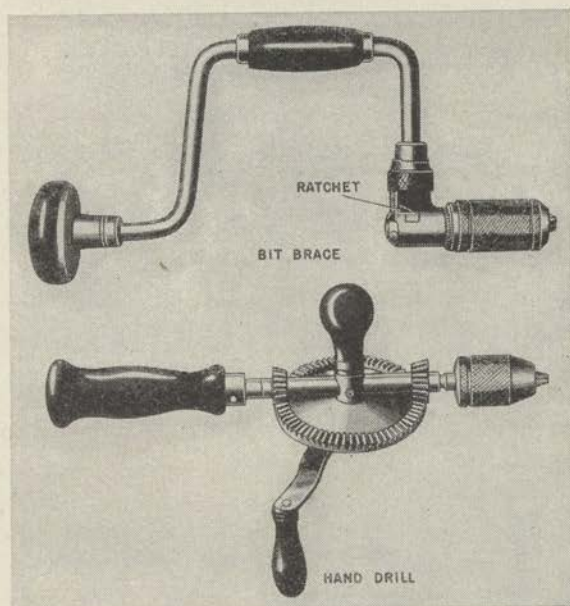
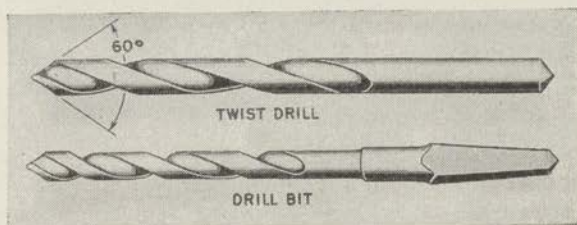

FIGURE 45.—Bit brace and hand drill.
FIGURE 50.—Twist drill and drill bit.
j. Hand boring and drilling tools.—Boring tools generally used in the woodworking shop are the bit brace and the hand drill (fig. 45).
(1) The hand drill is quick and convenient for small holes. The most desirable style of brace is the ratchet type (fig. 45), because it is possible to bore holes or drive screws with it in tight spots where there is not enough room for the full sweep of the brace. Braces range in sweep from 6- to 14-inch diameter. A brace with an 8-inch sweep is most convenient for boring 1-inch or smaller holes in softwood. For larger holes, especially in hardwood, use a brace with a 10- or 12-inch sweep.
(d) To bore a hole smaller than $\frac{3}{16}$ inch, such as a small screw may require, use a twist drill (fig. 50), in the hand drill (fig. 45), or a drill bit in a brace. The same twist drills are used for wood as for metal, except that the points should be ground to an included angle of 60°